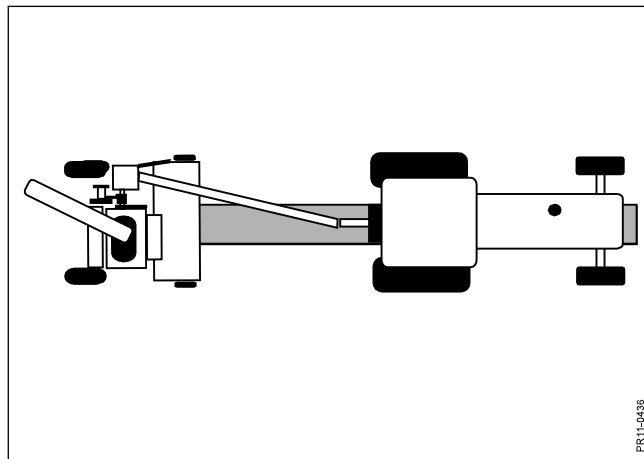

Fig. 6-11
- Fig. 6-11** 3) Here the chopper works in-line as the tractor drives over the swath. This technique is of course very suitable for picking up single swaths as you avoid driving on the crop. The technique is still suitable for side loading to both sides and brings the tractors close to each other.
The PTO shaft should work with a deviation of maximum 20°. For sharp turns to the right it is therefore recommended that the drawbar is moved to transport position or a position corresponding to working in-line (see Fig. 6-11.)